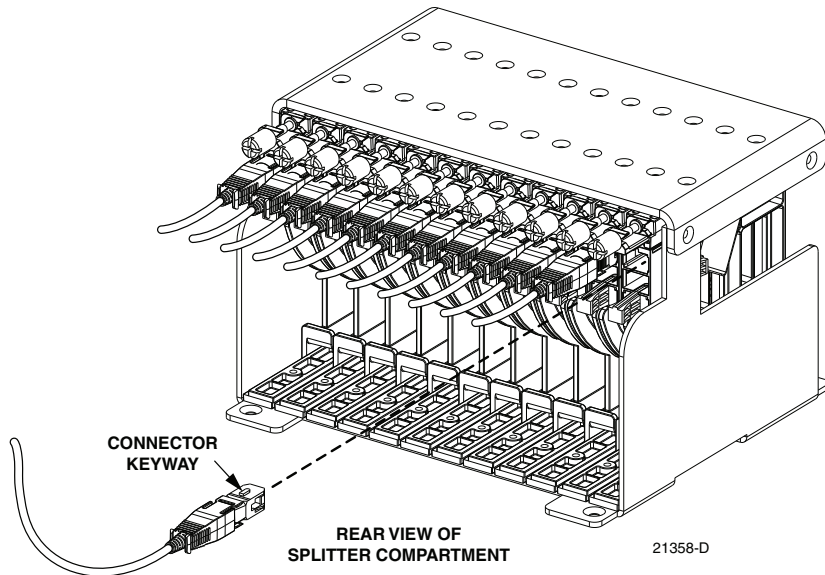

Figure 20. Feeder Cable Connector
9. Insert the feeder fiber connector into the appropriate bulkhead adapter (remove dust cap from adapter) at the rear of the splitter compartment as shown in Figure 20.